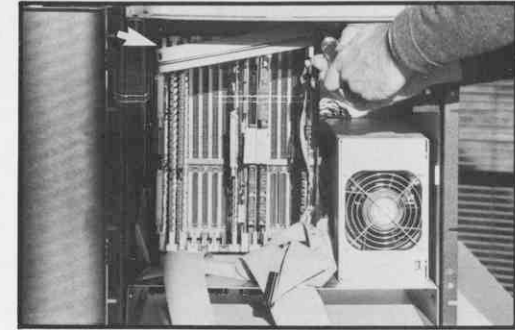

Figure 103 Restraining Rail Installation
- 6.49 Install the restraining rails at the top and bottom of the card cage as shown in Figure 103. Some systems do not have these rails.